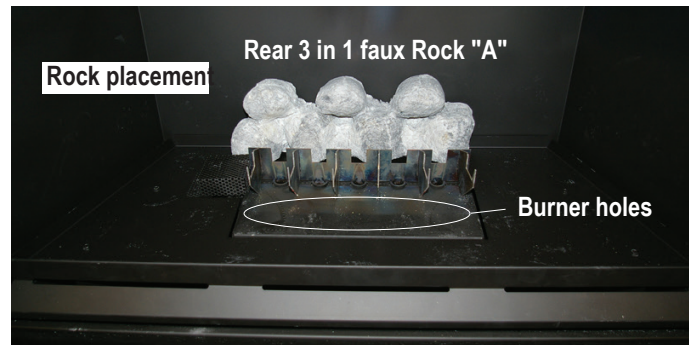

Figure 33d. Placement of Rear faux ceramic rock "A" (flat surfaces of rock on bottom pan of the fireplace). Note size and location of rock.
2. Install Rear faux "A" ceramic 3 in 1 Rock as shown in Figure 33d.